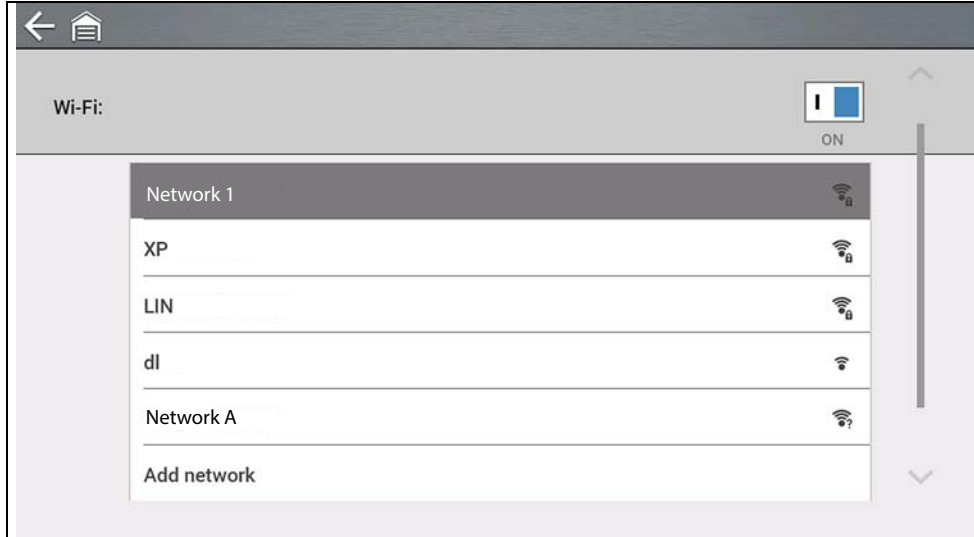

Figure 14-2
- To connect, select your network from the available networks (Figure 14-2).